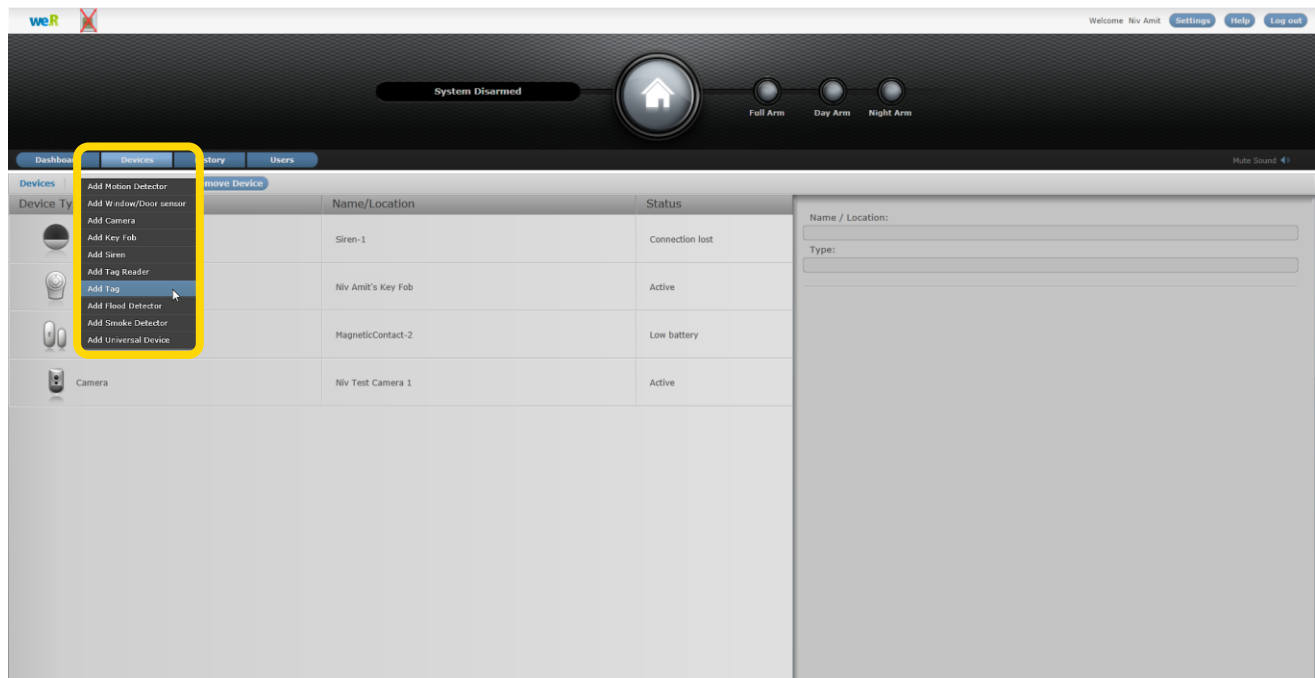

Figure 111: Add Tag Device Utilizing Web Application
3. Click over the **Add Tag** option of the menu as illustrated in Figure 111 above.